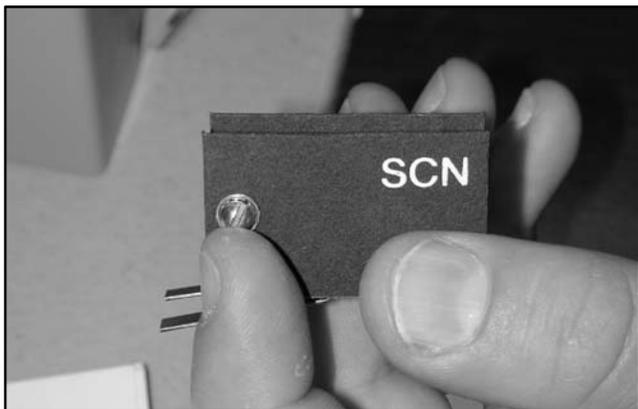

Figure 5-11 Microswitch Insulator with Label
7. Remove the holding screws. Note the microswitch labels on the insulators. See Figure 5-11.